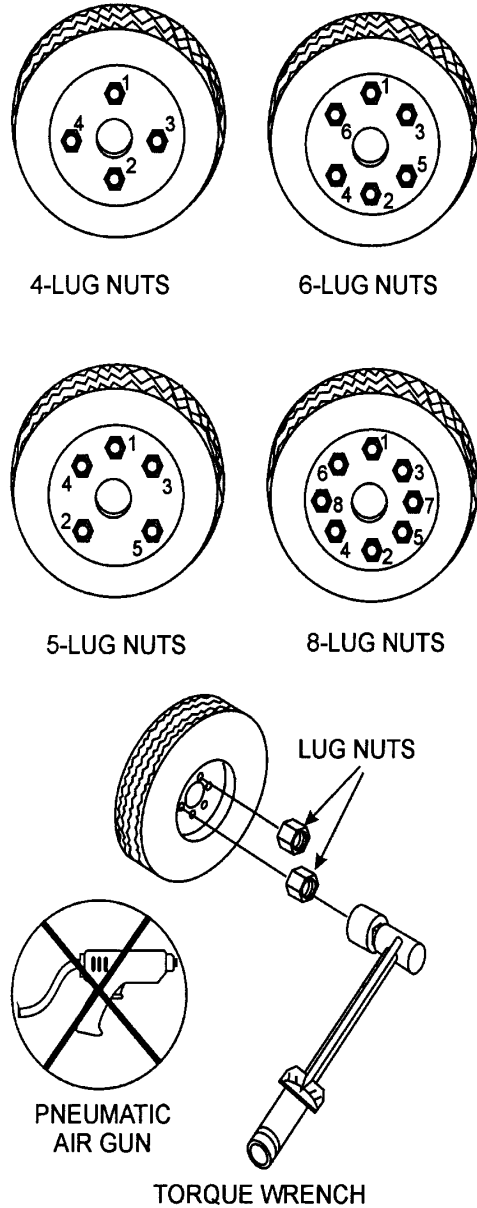

Figure 45. Wheel Lug Nuts Tightening Sequence
12. **Lug Nuts** — Used to secure the wheel to the wheel hub. Always use a torque wrench to tighten down the lug nuts. See Table 15 and Figure 45 for lug nut tightening and sequence.
2. Torque all lug nuts in sequence (see Figure 45). **DO NOT** torque the wheel lug nuts all the way down. Tighten each lug nut in 3 separate passes as defined by Table 15.